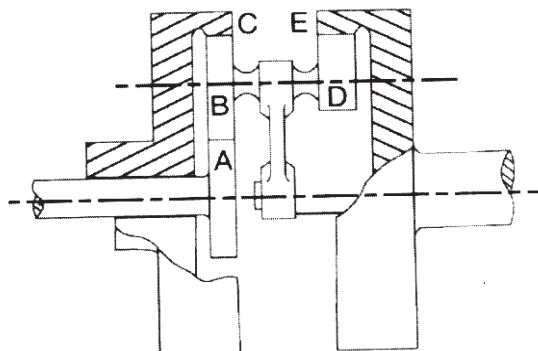

Fig.2
- Q4)** In epicyclic gear train as shown in fig.2 the driving gear A rotating in clockwise direction has 14teeth & fixed annular gear C has 100 teeh. The ratio of gear in gears E & D is 98:41. If 1.85kW is supplied to the geat A roatating at 1200 rpm. Find: [10]